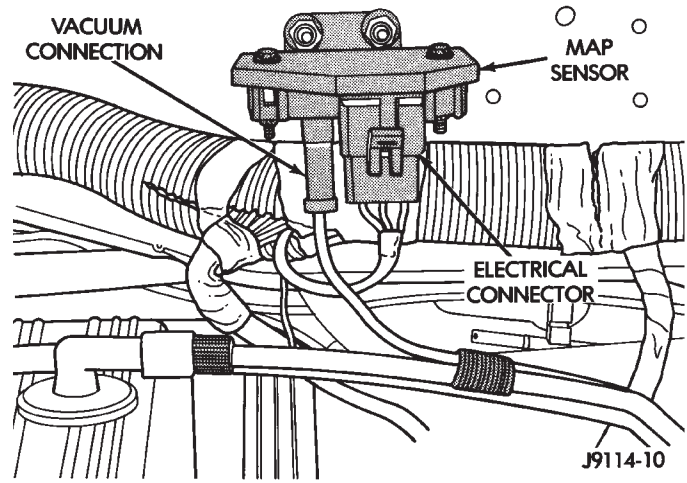

Fig. 22 MAP Sensor—Typical
(19) Verify that MAP sensor electrical connector is firmly connected to MAP sensor (Fig. 22). Verify that vacuum hose is firmly connected to MAP sensor and to the intake manifold.